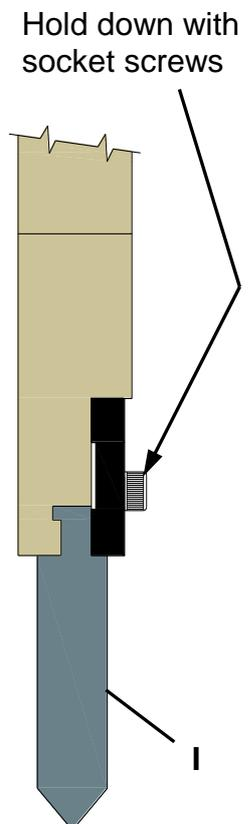

figure 20
1. Lower the ram until the top die (I) is approximately 1/32" (1mm) from bottoming in the lower die.
2. Loosen the socket hold down screws enough to slide out the die (I) (fig.20). Make sure there is adequate clearance around the machine to safely remove and replace the die.